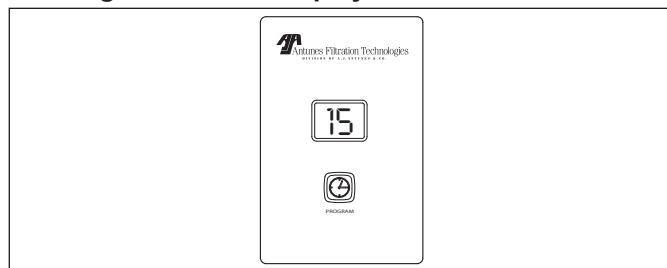

Figure 13. Time Display for Fd Mode (15 Seconds)
3. To make a change, press and hold down start button to scroll through settings - release button at desired setting (Figure 13).